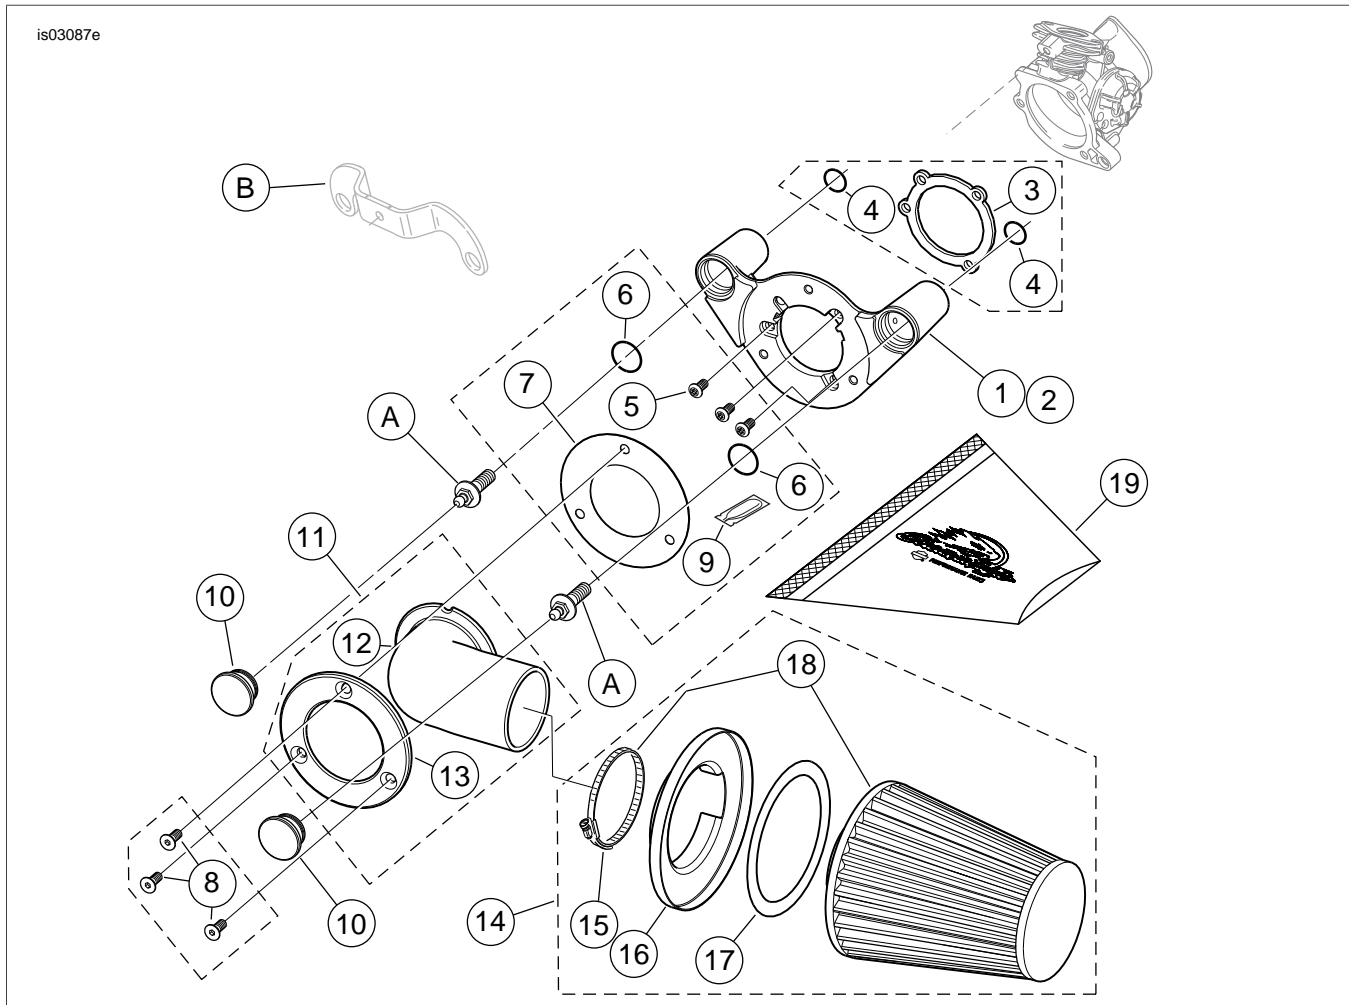

Figure 1. Service Parts: Air Cleaner Kit
See Figure 1 and Table 1.
2. Remove the air cleaner backplate following the instructions in the service manual. Retain the two breather screws (A) removed from the backplate (see Figure 1). The remaining parts can be discarded.
3. See Figure 1. Remove and discard induction module bracket (B).
4. See Figure 1. Install the **new** O-rings (4) in the grooves around the breather screw holes on the carburetor or induction module side of the backplate (1 or 2).
5. Remove the backing from the adhesive side of the backplate gasket (3). Carefully align the holes and install the gasket on the carburetor or induction module side of the backplate.
6. Insert the breather screws (removed in Step 2) through the backplate. Apply a small amount of Loctite (9) to the breather screw threads and the mating tapped holes in the cylinder head, then install the screws into the cylinder head. **DO NOT** tighten completely at this time.
7. Obtain the three backplate mounting screws (5) from the kit, and apply a small amount of Loctite to the screw threads. Install the screws all the way through the backplate and gasket until the screw threads are captured in the carburetor or induction module. **DO NOT** tighten completely at this time.
9. Lubricate the O-rings (6) with clean engine oil or white lithium grease.